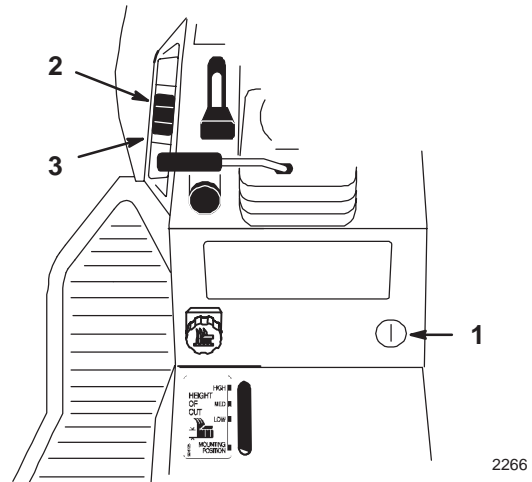

Figure 16
The attachment power lift (optional on some models) (Fig. 16) is used to raise and lower attachments.
1. Turn key to the “ON” or “RUN” position (Fig. 16).
2. Push the lift switch in the “UP” direction to raise the attachment lift (Fig. 16). This will lift and hold the attachment in the up, or raised position.
2. Push the lift switch in the “DOWN” direction to lower the attachment lift (Fig. 16). This will lower the attachment lift.